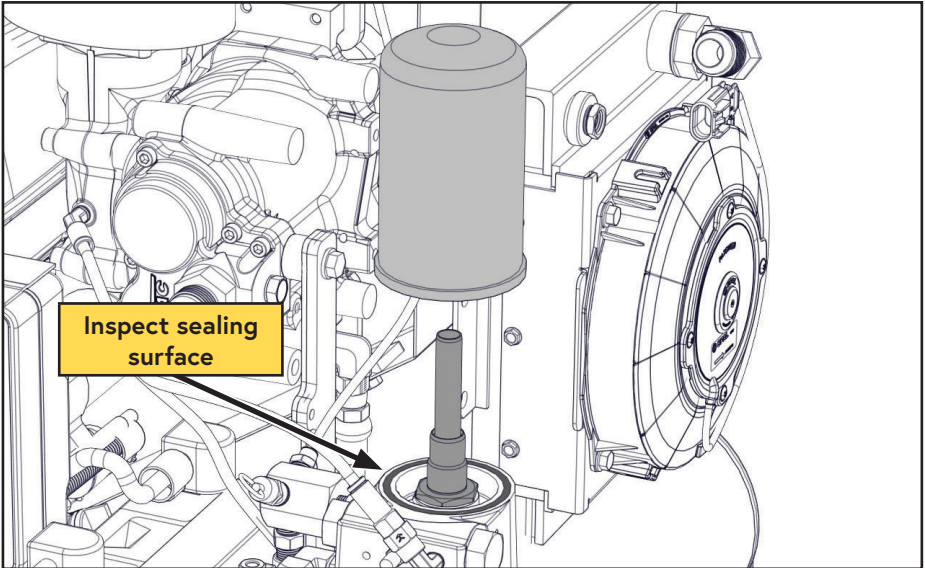

Figure 39 — Coalescing filter
- ☐ Remove the spin on coalescing filter by turning it counterclockwise (Figure 39).
- ☐ Clean the gasket sealing surface and inspect it for damage. The surface must be free of old gasket material and smooth to ensure a good seal (Figure 39).